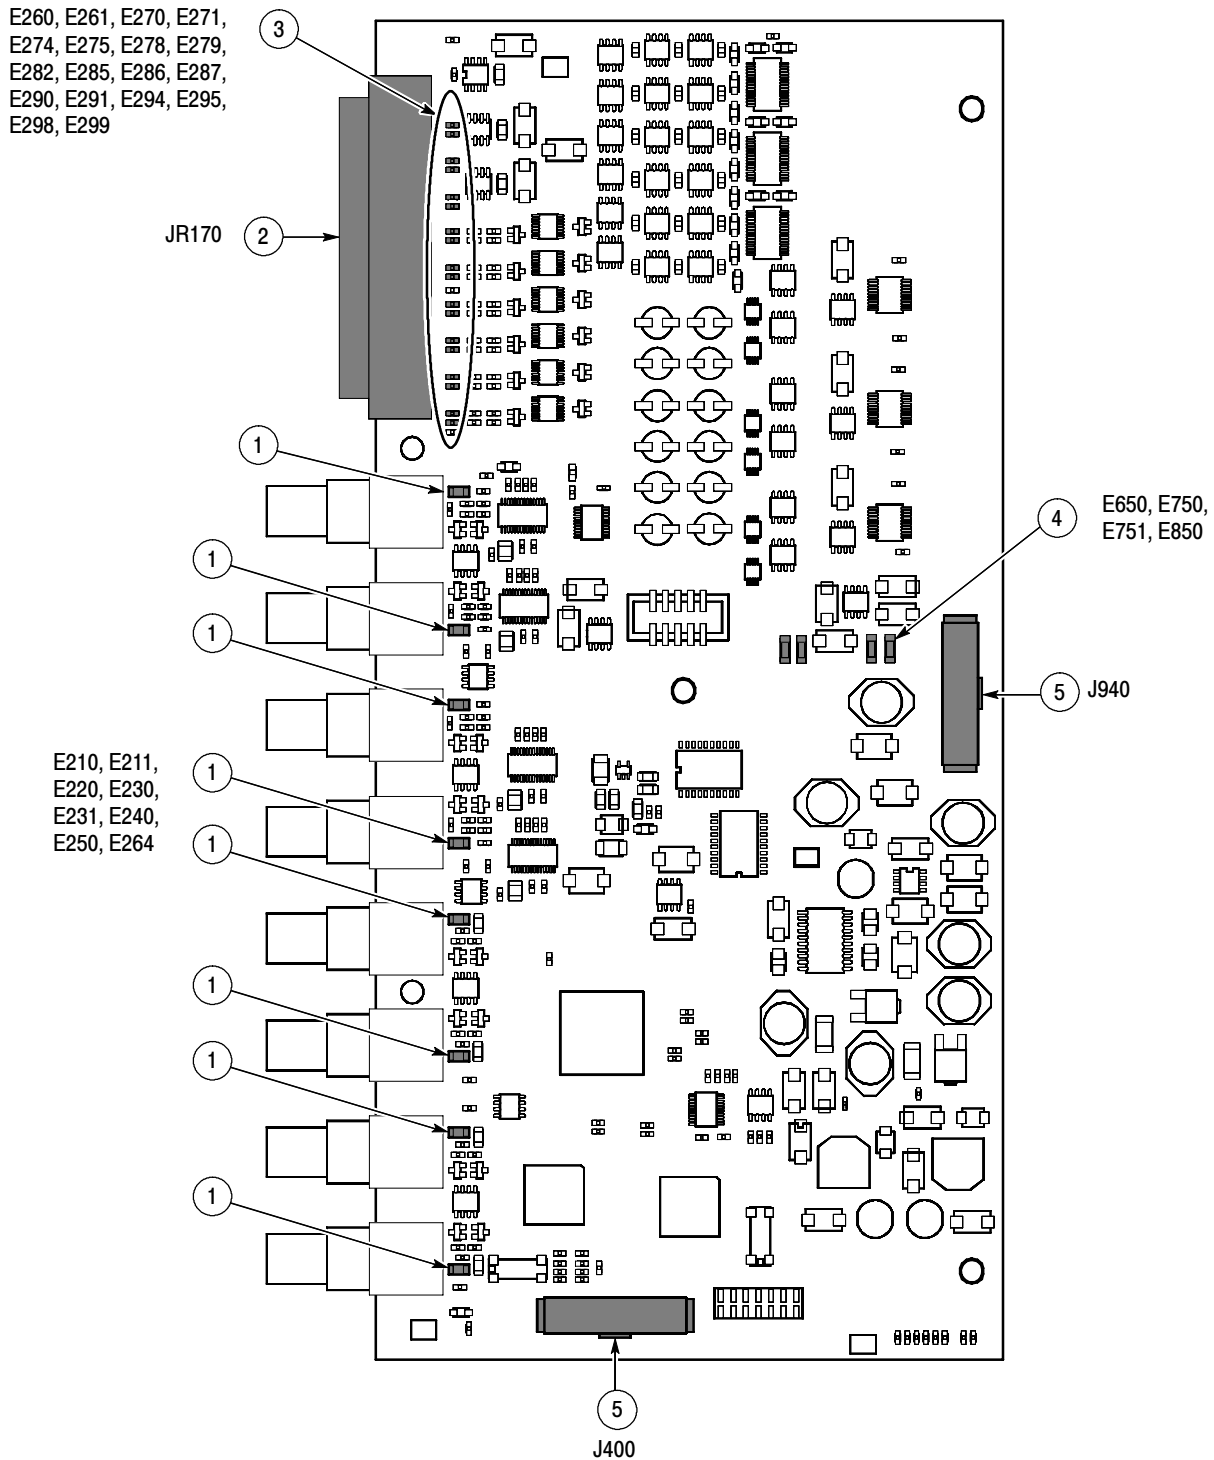
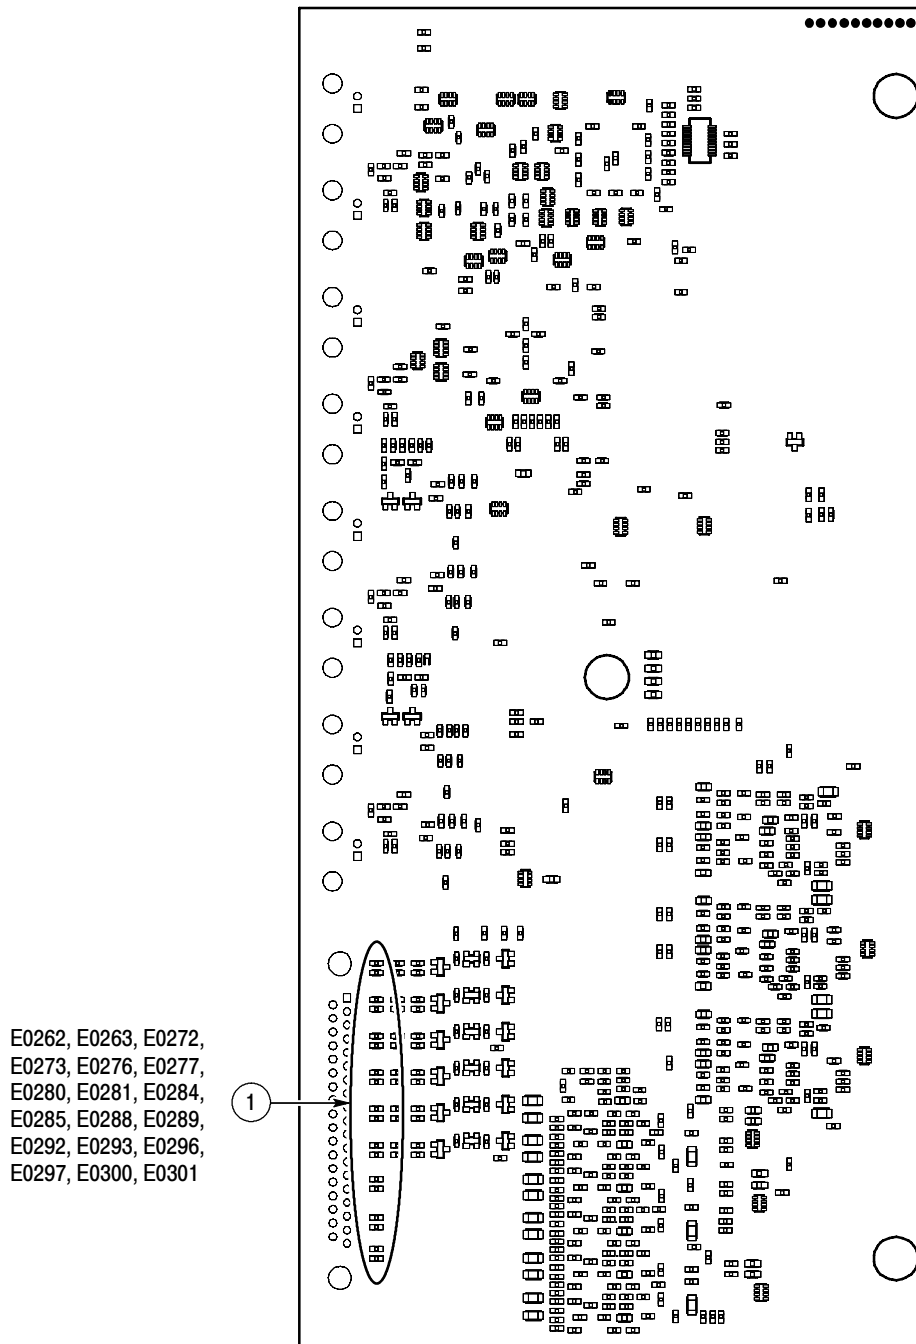

Figure 5-7: Audio board component-side components, Options DA and DG
Figure 5-8: Audio board back-side components, Options DA and DG
**Audio Options DA and DG only, replaceable on-board parts list (Figure 5-7 and Figure 5-8)**